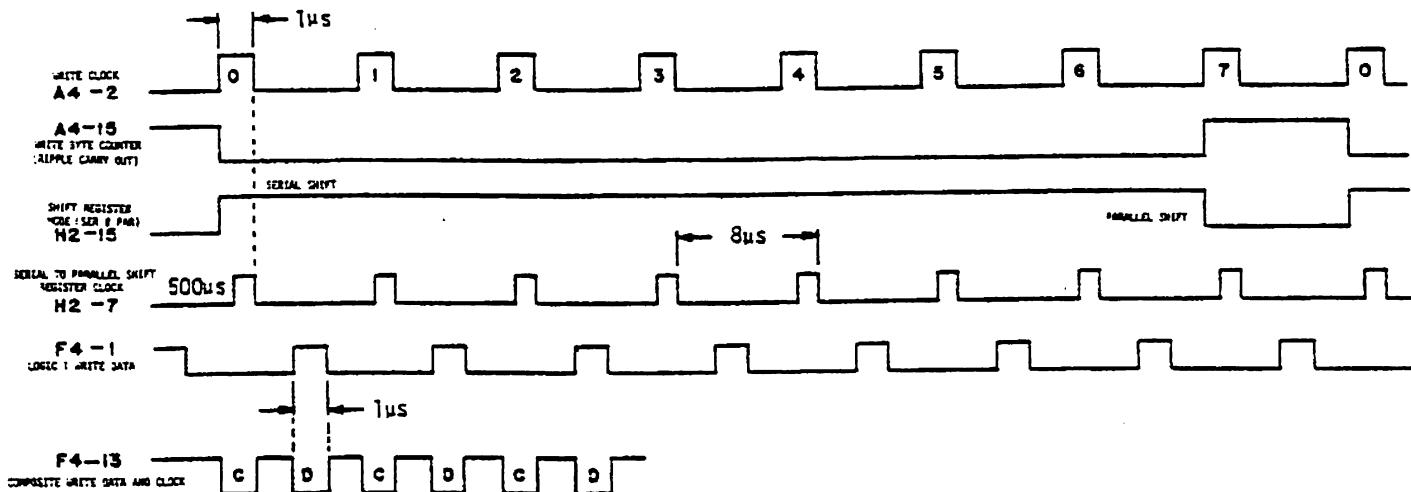

Figure 4-11. Write Circuit Timing
The Write Clock + Data Window Generator, A3, is enabled by the 1MHz Clock pulse (zone D8) at A3 pin 2. The 1MHz clock is derived by dividing the 2MHz Clock by 2 at J4 pin 9 (zone A4). In addition to clocking A3 pin 2, the 1MHz Clock is also present at F3 pin 3 (zone D6). On the eighth 1MHz Clock pulse, occurring every 8 μ s., A3 pin 15 (RC) is HIGH for 1 μ s and, after being inverted LOW by B4 pin 6 (zone D4), is present at F3 pin 2. When the 1MHz Clock pulse goes LOW at F3 pin 3, F3 pin 1 is enabled HIGH, clocking H2 pin 7. When H2 pin 15 (SHIFT/LD) is HIGH, WRITE DATA is shifted serially out on H2 pin 12 (SERIAL DATA OUT). If a logic 1 is being written, the HIGH at H2 pin 13 is inverted by B4 pin 10 (zone D4) and Serial Write Data appears LOW to F4 pin 3 (zone D3). When A_{OUT} and B_{OUT} are HIGH, and C_{OUT} is inverted HIGH by G2 pin 6 (zone D4), E4 pin 6 (zone D3) is enabled LOW. F4 pin 1 (zone D3) is enabled HIGH, insuring F4 pin 13 is LOW (refer to Figure 4-11 and 4-12), and the Disk WRT DATA (Write Data) input is enabled through line driver K3 pin 9 (zone D2). The Write Data Windows (zone D3) are developed halfway between the write clocks which are generated every 8 μ s.